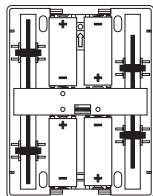

Figure 3
3. **Install 4 alkaline “C” batteries in chime.** Make sure batteries are oriented properly as shown in Figure 3.
7. Replace batteries (see Figure 3). Snap cover onto chime base.